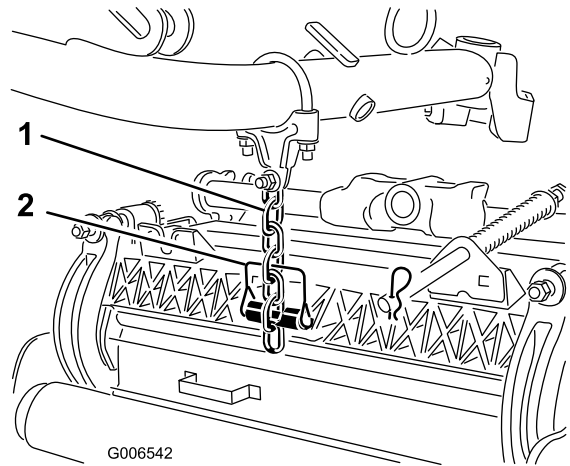

Figure 13
7. Secure the lift-arm chain to the cutting unit chain bracket (Figure 13) with the snapper pin as follows: